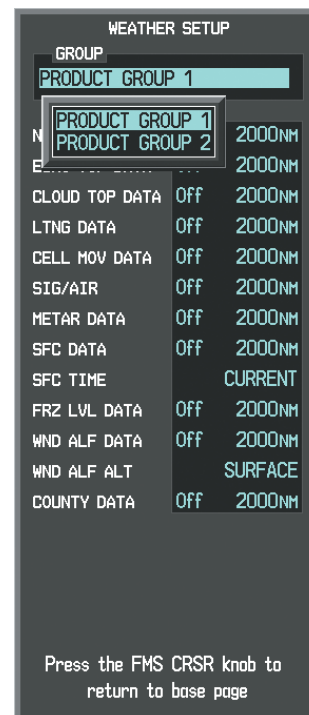

Figure 6-5 Weather Data Link Page Setup Menu
- 4) Turn the small **FMS** Knob to select 'Product Group 1' or 'Product Group 2', and press the **ENT** Key (Figure 6-5).
- 8) Press the **FMS** Knob or **CLR** Key to return to the Weather Data Link (XM) Page with the changed settings.